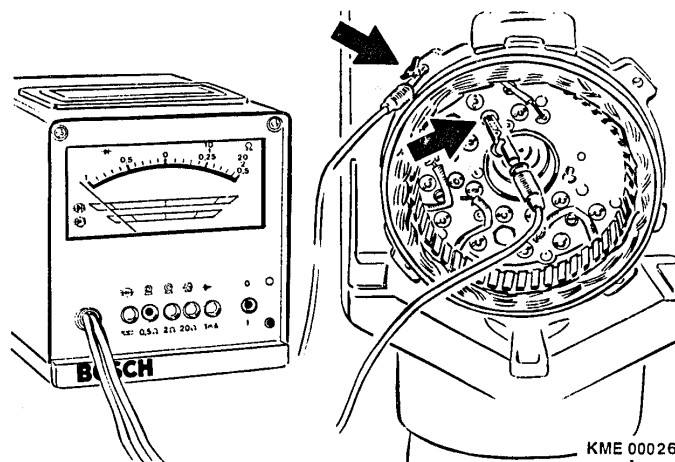

Figure 11 Testing of Rectifier Assembly
- a. **Using tester WPG 012.00 (Bosch Number 0 684 201 200)** (Figure 11)